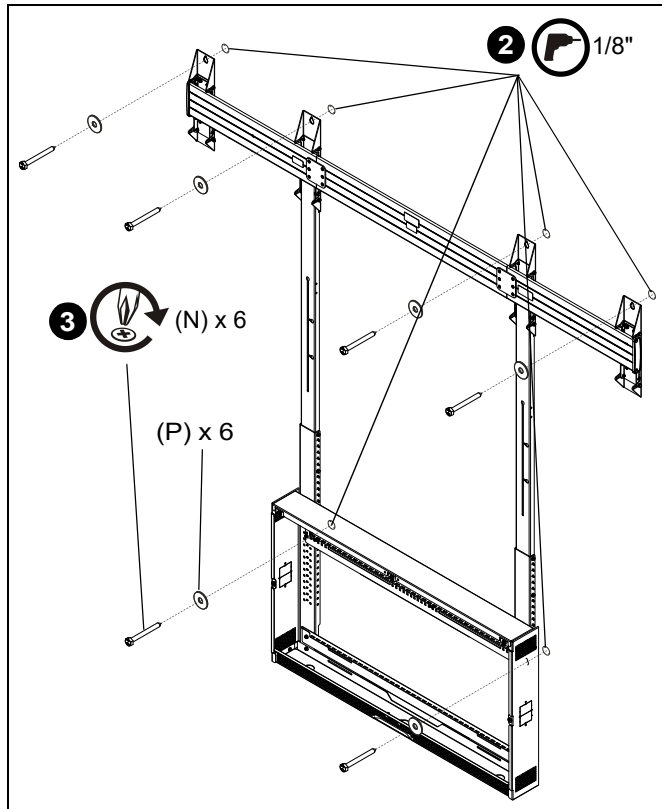

Figure 17
1. Mark hole locations at each mounting location based on locations of bottom uprights and mounting brackets. Use a level to ensure of an even mount. (See Figure 17)
2. Remove the head assembly from the uprights and drill 1/8" holes on marked hole locations. (See Figure 17)
3. Replace the head assembly onto the uprights and use six 1/4 x 2 1/2" hex head lag screws (N) and six 1/4" washers (P) to secure mounting brackets and bottom uprights to wall. (See Figure 17)